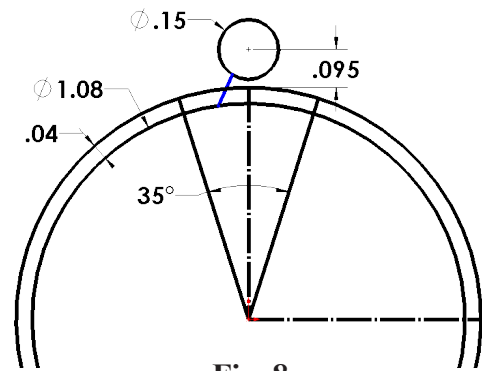

Fig. 8
Step 1. Click **Line**  (L) on the Sketch toolbar.
Step 2. Sketch line from small circle to inside circle, **Fig. 8**.